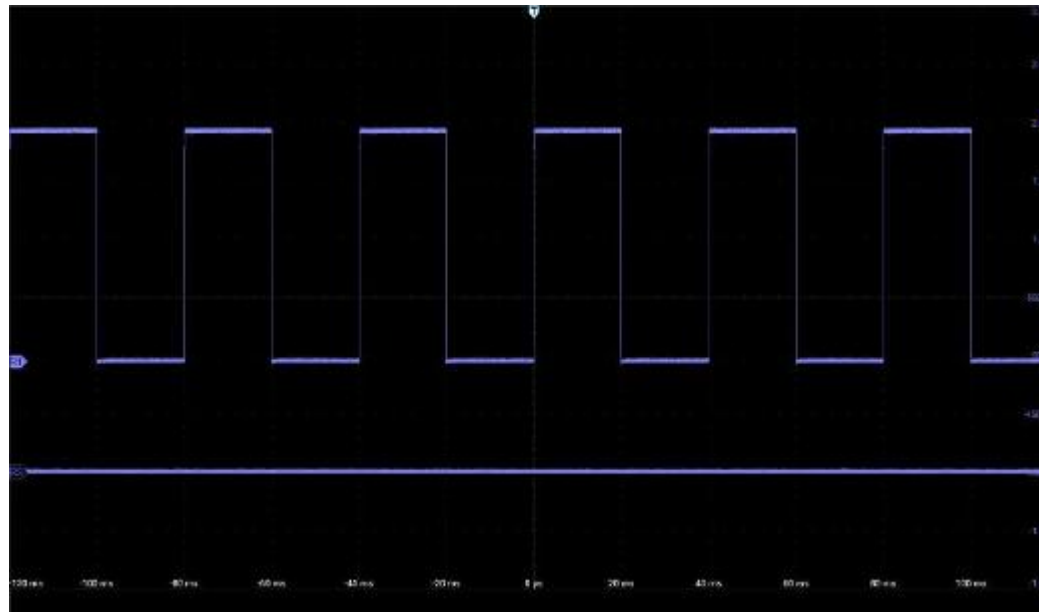

Figure 9-7 Current reference channel
- 3) Click the name of the reference waveform file to be called. The file is loaded into R1 channel. Then, R1 channel is turned on as the current channel waveform, and the reference waveform channel icon  is highlighted. The displayed state changes from “Close” to “Open”. As in Figure 9-7, the brighter reference waveform is shown as the current reference channel.